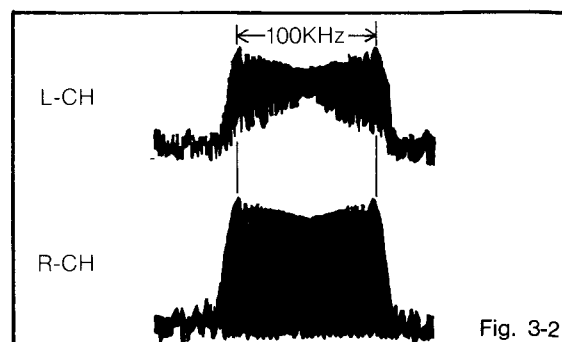

Fig. 3-2
2. Adjust the VR5502(L-CH) and VR5501(R-CH) so that the waveforms becomes as shown in Fig. 3-2.